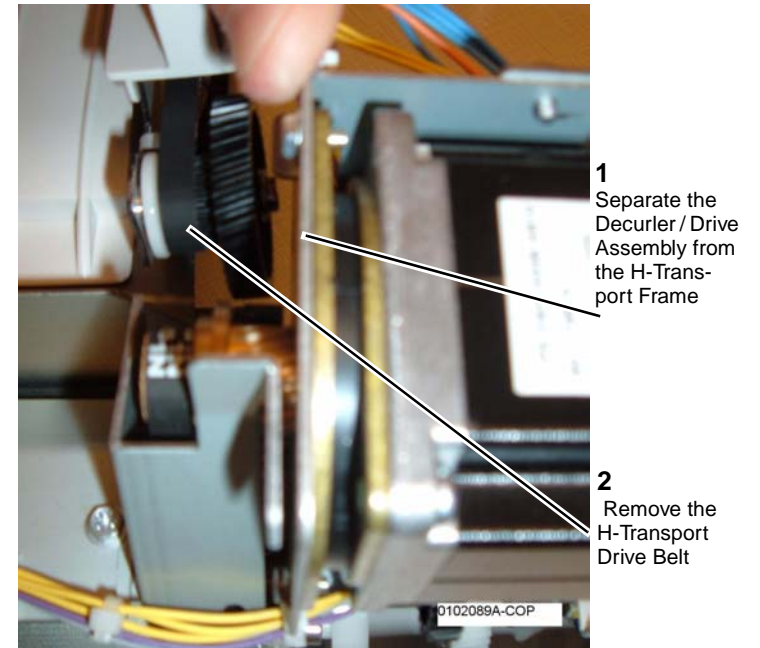

Figure 4 Removing the H-Transport Drive Belt
8. Remove the H-Transport Drive Belt (Figure 4).